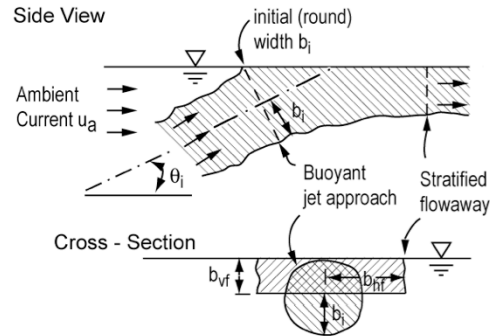

Figure 2-12: Gradual Surface Approach (near horizontal)
- Figure 2-12 shows **buoyant jet** well **deflected** by ambient current at **surface contact**